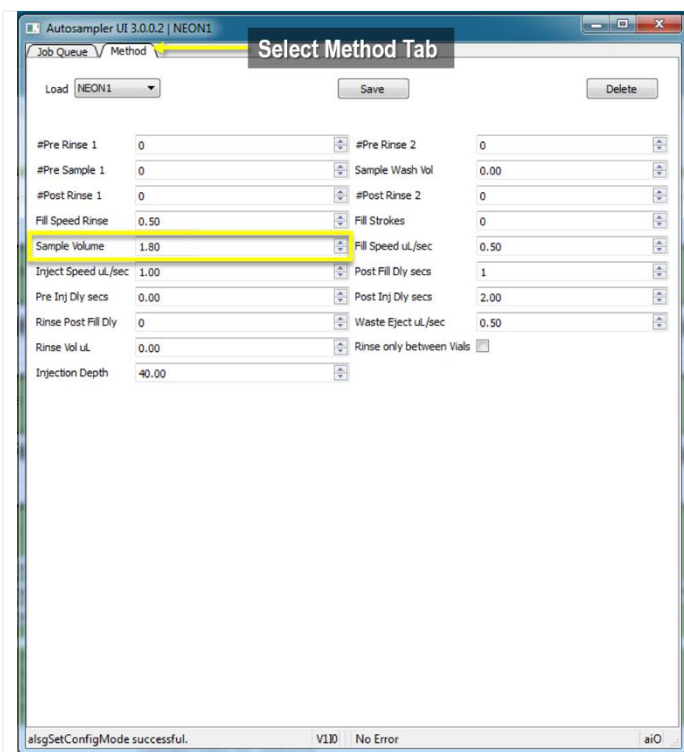

Figure 173. Select Method and Adjust Sample Volume (uL).
STEP 14 | Under the **Method** Tab, select the **NEON1** configuration (**Figure 173**).